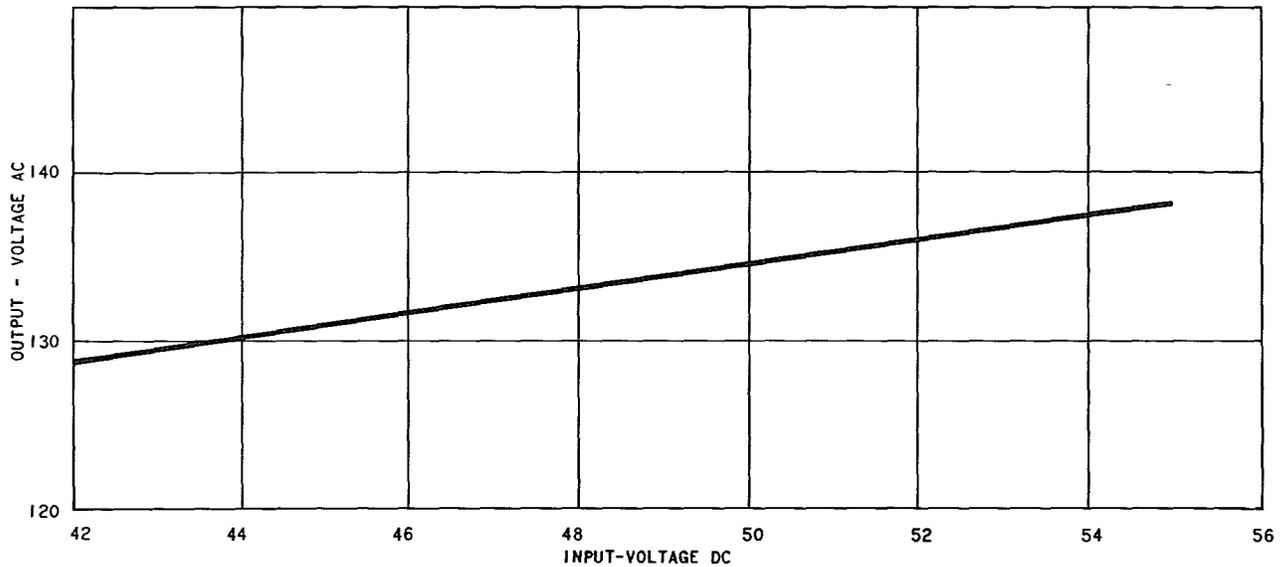

Fig. 1—Input Voltage Versus Output Voltage
- (8) Operate the INPUT SWITCH (S1) to the OFF position. Move the tap on transformer T4 to a lower number. Operate the INPUT SWITCH (S1) to the ON position.
- (9) Repeat (7) and (8) until hunt begins in the range of  $130\pm 2$  volts. Proceed to (12).
- (10) Operate the INPUT SWITCH (S1) to the OFF position. Move the tap on transformer T4 to a higher number. Operate the INPUT SWITCH (S1) to the ON position.
- (11) Repeat (7) and (10) until hunt begins in the range of  $130\pm 2$  volts. Proceed to (12).
- (12) Start the inverter as described in 3.02. Adjust R25 so that the output voltage corresponds to the input voltage as shown in Fig. 1.
- (13) Lock the adjustment bushing on R25.
- (14) Operate the INPUT SWITCH (S1) to the OFF position. Disconnect all test equipment; connect the lead to inductor L10 to terminal 2 of TB2.
- (15) Restore the inverter to normal operation as covered in 3.02.